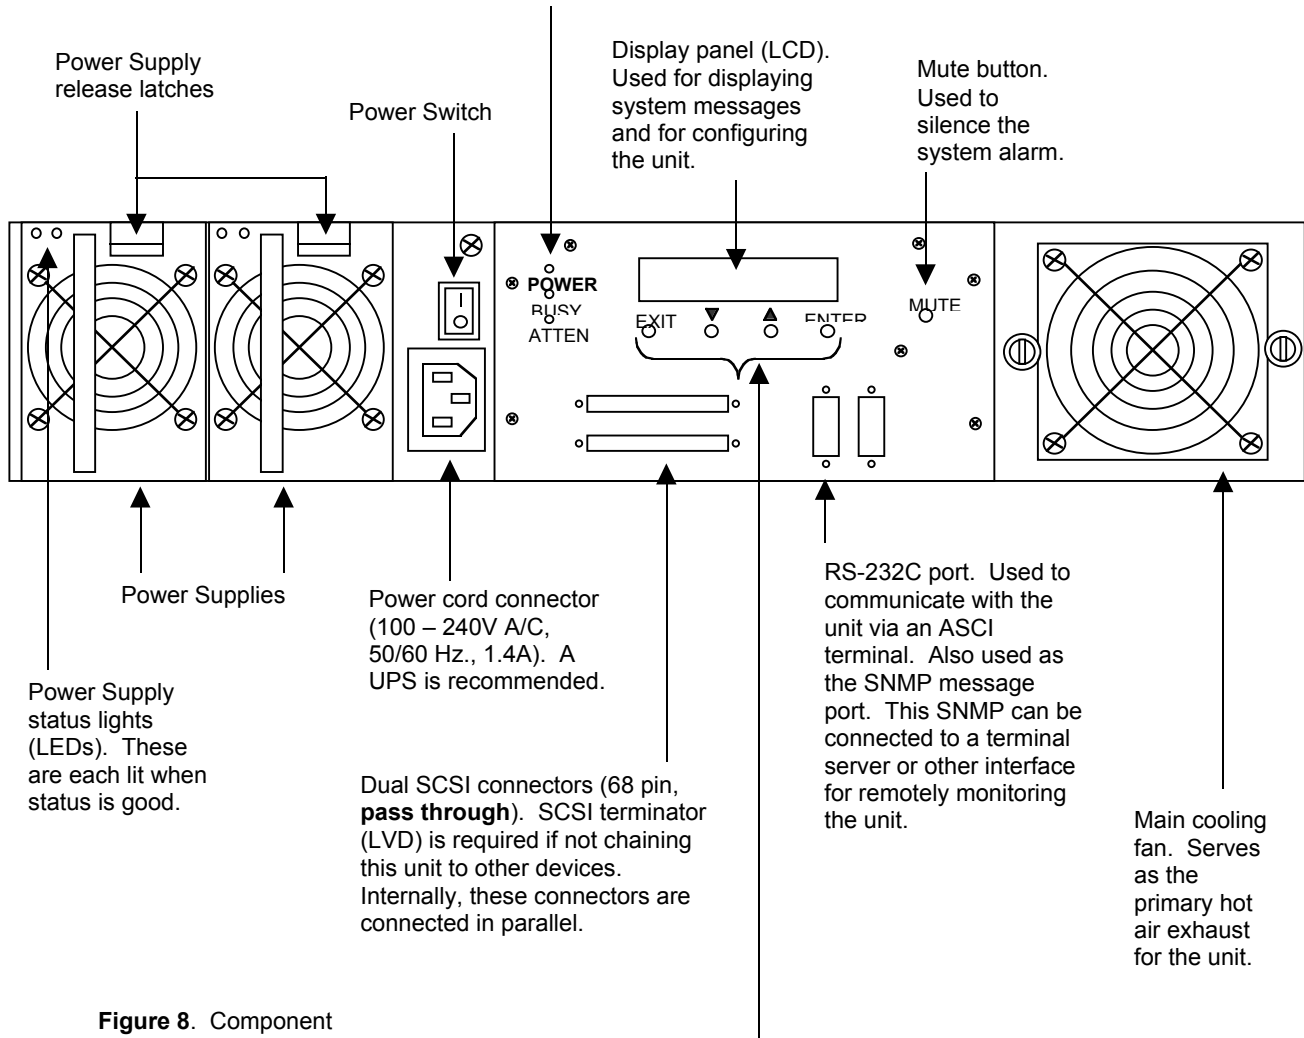

Figure 8. Component identification on rear panel.
- 2) Next, make sure that the RAID system's power switch is in the OFF position (see figure 8). Connect the RAID system to an appropriate power source using the supplied power cord.
- 3) If the RAID system will be the last (or only) external SCSI device on the SCSI bus, install the supplied SCSI terminator onto one of its SCSI connectors (see figure 8).
- 6) When all connections are secure, turn the RAID system ON using its rear mounted power switch (see figure 8). Wait for it to become ready (after about 1 minute, “Ready” will be displayed on its LCD display - located on the rear of the unit).
Several of the RAID system’s components are accessed from the rear of the unit. See figure 8 below for locations and brief descriptions of these components.